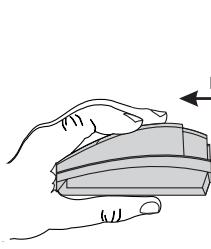

Fig. 1a
- Lift off the insert ① as shown in Figure 1a or 1b. Apply pressure (A) on insert during sliding (B) or turning (C).